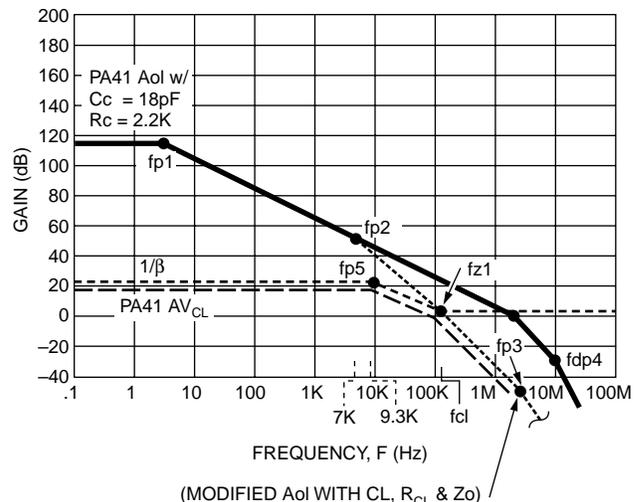

FIGURE 34. POWER OP AMP MAGNITUDE PLOT FOR STABILITY
STEP 5: Draw PA41 Aol curve for $C_c = 18 \text{ pF}$. The higher frequency poles can be "reverse engineered" from the PA41 open loop phase plot. Note in Figure 34 the pole at 10MHz is labeled "fdp4". This "dp" nomenclature will denote at this frequency there are two poles (double pole).